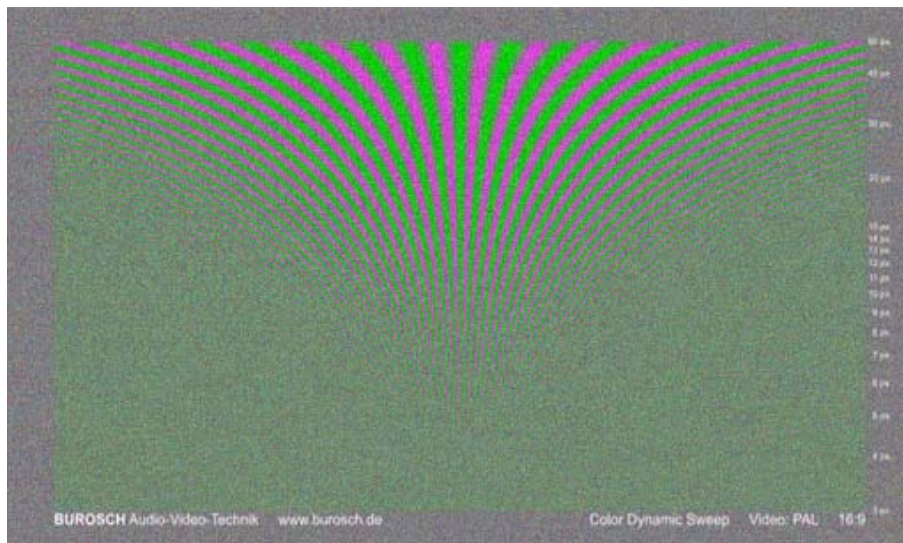

fig. 4: noise
- gray area heavily interfered (figure 4)